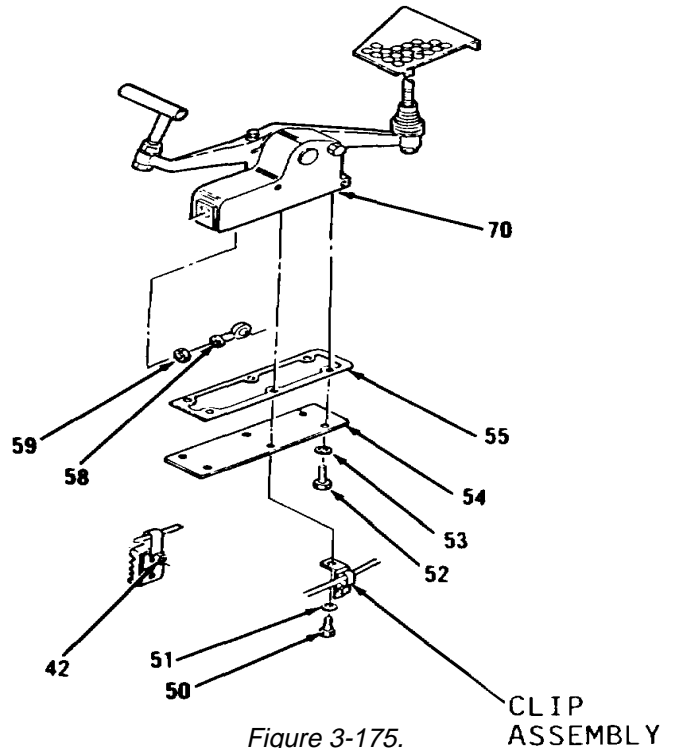

Figure 3-175.
71. Tighten nut (59) securing rod end (58) in housing (70, Figure 3-175) under right side of operator's compartment.
72. Install new gasket (55), cover (54), five washers (53) and bolts (52).
73. Position clip assembly with hydraulic hose on cover (54).
74. Install washer (51) and bolt (50).
75. Tighten four nuts (42) at left and right sides of articulation area.